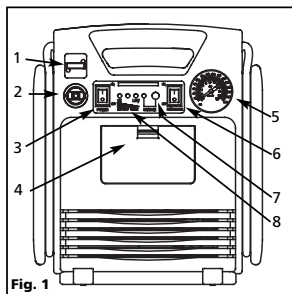

Fig. 1
1. Remove the cover on the unit's 12 Volt DC Power Outlet (see Fig. 1).
2. Insert the 12 Volt DC plug from the appliance (cell phone, radio, etc.) into the 12 Volt DC Power Outlet on the front of the unit (see Fig. 1).
3. Turn the Master Switch to 'On' (see Fig. 1).
Open the cover on the air hose storage compartment (see Fig. 1) and pull out air hose.
1. Turn the Master Switch to 'On' (see Fig. 1).
2. Turn the Compressor On/Off switch to 'On' (see Fig. 1).